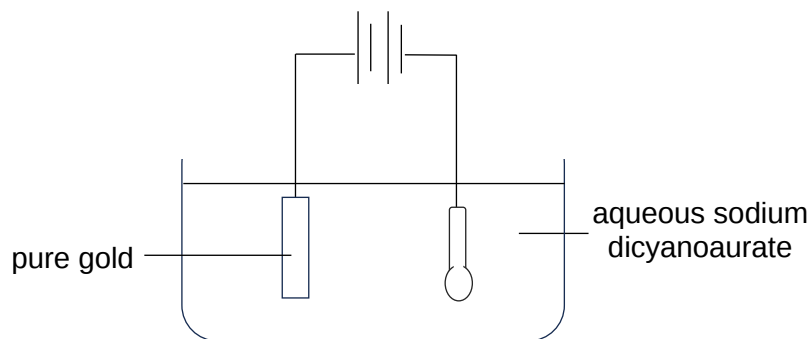

Fig. 13.1
- 13** An experiment was conducted to coat a metal spoon with gold as shown in Fig. 13.1. Aqueous sodium dicyanoaurate, $\text{NaAu}(\text{CN})_2$, was used as the electrolyte. The spoon is placed at the cathode and a piece of gold is used as the anode.